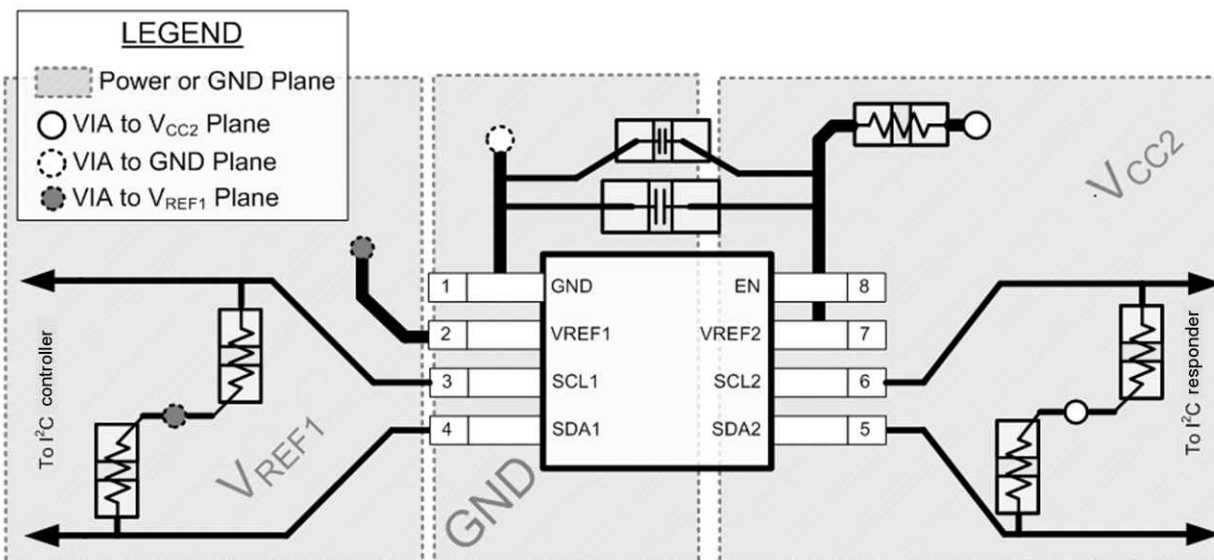

図 9-8. Layout Example
In all PCB layouts, it is a best practice to avoid right angles in signal traces, to fan out signal traces away from each other on leaving the vicinity of an integrated circuit (IC), and to use thicker trace widths to carry higher amounts of current that commonly pass through power and ground traces. The 100-pF filter capacitor should be placed as close to  $V_{REF2}$  as possible. A larger decoupling capacitor can also be used, but a longer time constant of two capacitors and the 200-kΩ resistor results in longer turnon and turnoff times for the TCA39306 device. These best practices are shown in FIG 9-8.
For the layout example provided in FIG 9-8, it would be possible to fabricate a PCB with only two layers by using the top layer for signal routing and the bottom layer as a split plane for power ( $V_{CC}$ ) and ground (GND). However, a four-layer board is preferable for boards with higher-density signal routing. On a four-layer PCB, it is common to route signals on the top and bottom layer, dedicate one internal layer to a ground plane, and dedicate the other internal layer to a power plane. In a board layout using planes or split planes for power and ground, vias are placed directly next to the surface-mount component pad, which must attach to  $V_{CC}$  or GND, and the via is connected electrically to the internal layer or the other side of the board. Vias are also used when a signal trace must be routed to the opposite side of the board, but this technique is not demonstrated in FIG 9-8.